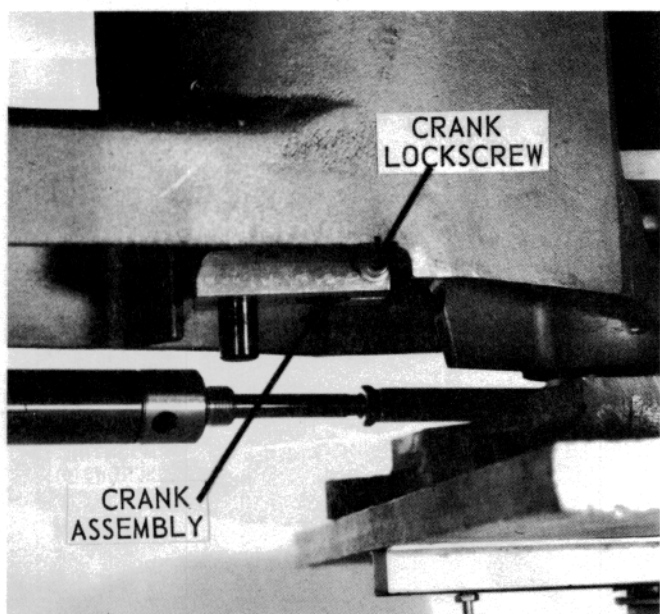

Figure 34 — Mainshaft Crank
- 1.2.11 Loosen the mainshaft crank lock screw and remove the crank assembly and key (see Figure 34).